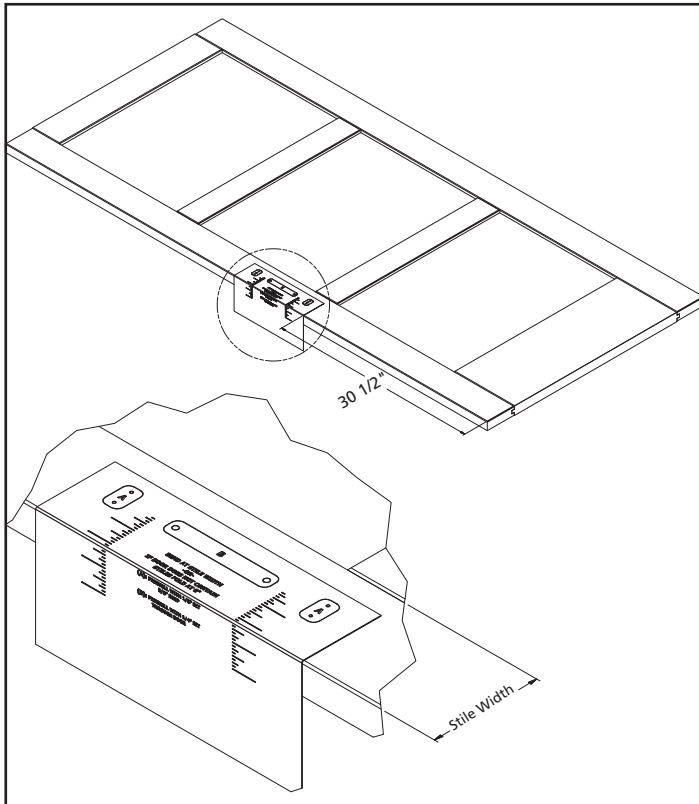

Figure 7. Aligning Handle Drill Guide to Door.
If the door design selected for this kit includes stiles, it is recommended that the handle is installed at the center of the stile. This can easily be achieved through the use of the rulers included on the Handle Drill Guide, on Page 12. Simply measure the stile width of the door, and fold the guide along the same measurement, shown in Figure 7.
3. Place the bottom edge of the Handle Drill Guide 30 1/2" above the bottom of the door as seen in Figure 7.